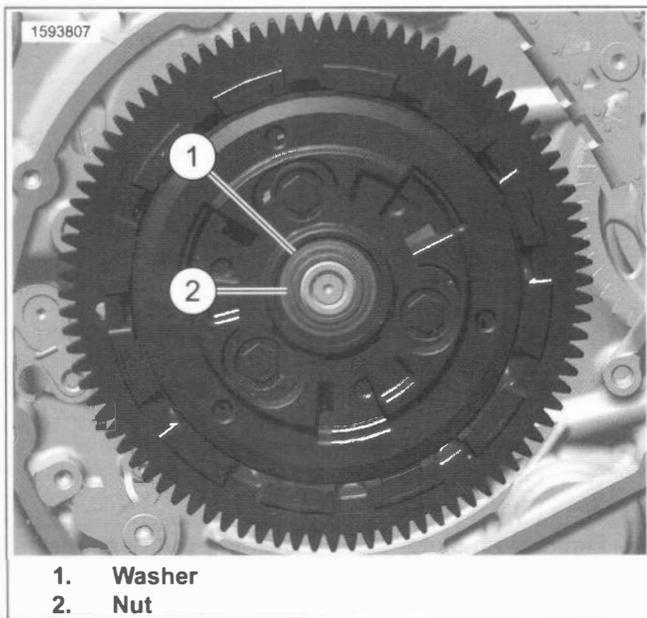

Figure 5-20. Clutch Washer and Nut
- See Figure 5-20. With paint mark facing out, install washer (1).
- Install new nut (2) using 12 point 24m socket. Tighten.